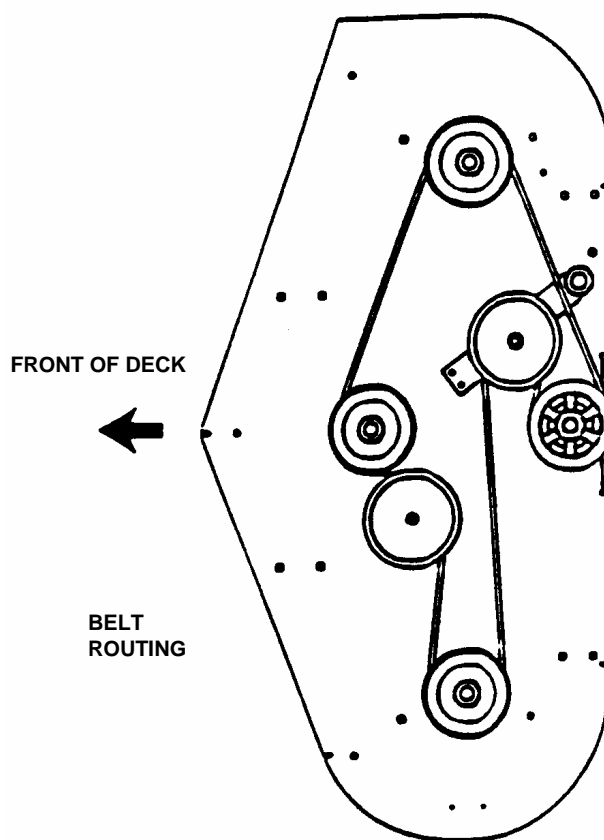

FIGURE 5.7
1. Route belt around blade pulleys and idler pulley in same the position as old belt was removed. It may be necessary to use a pry bar to pull idler pulley back to install belt. See Figure 5.7.